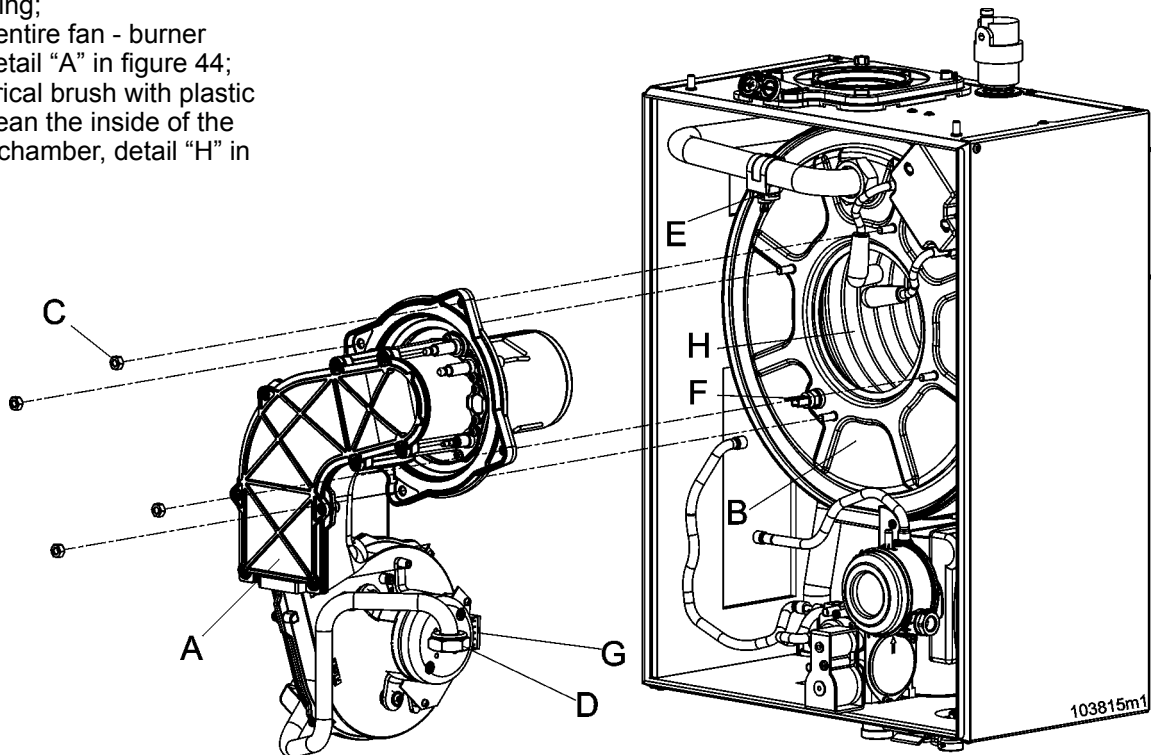

Figure 44 - Remove the fan-burner assembly unit
4. disconnect the wire from safety sensor "F" in figure 44;
5. unscrew the four nuts "C" in figure 44;
7. remove the entire fan - burner assembly, detail "A" in figure 44;
8. use a cylindrical brush with plastic bristles to clean the inside of the combustion chamber, detail "H" in figure 44;
9. use a vacuum cleaner to remove any unburned residue from the combustion chamber, detail "H" in figure 44;
WARNING!!! while performing the next step, carefully wash only the inside of the combustion chamber "H" of figure 44, and do not get water on the outside of the combustion chamber opening. Failure to comply with this warning can cause extensive property damage, severe personal injury or death!
11. using only water, wash the inside of the combustion chamber, detail "H" in figure 44. The water, will drain into the condensate drain. Clean the condensate trap (see section 13.6) before reassembling components;